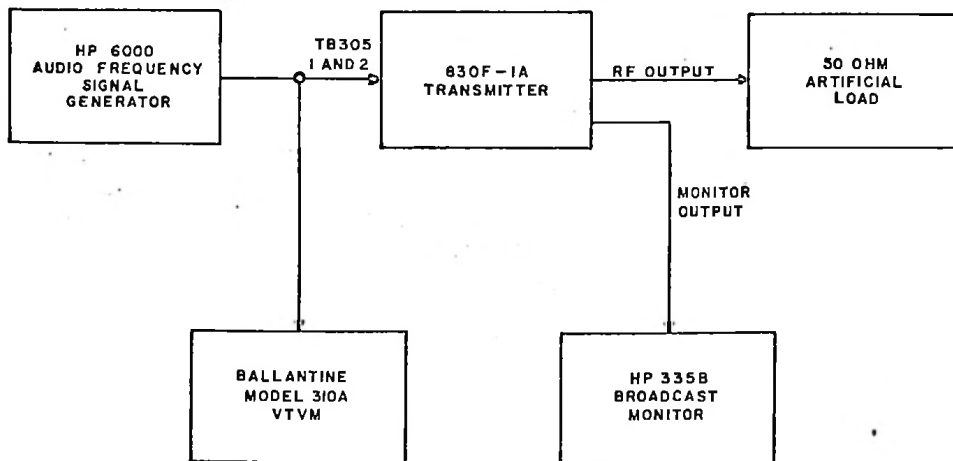

Figure 5-2. Audio Frequency Response, Test Setup
a. Refer to figure 5-2. Connect an audio frequency signal generator, such as a Hewlett-Packard Model